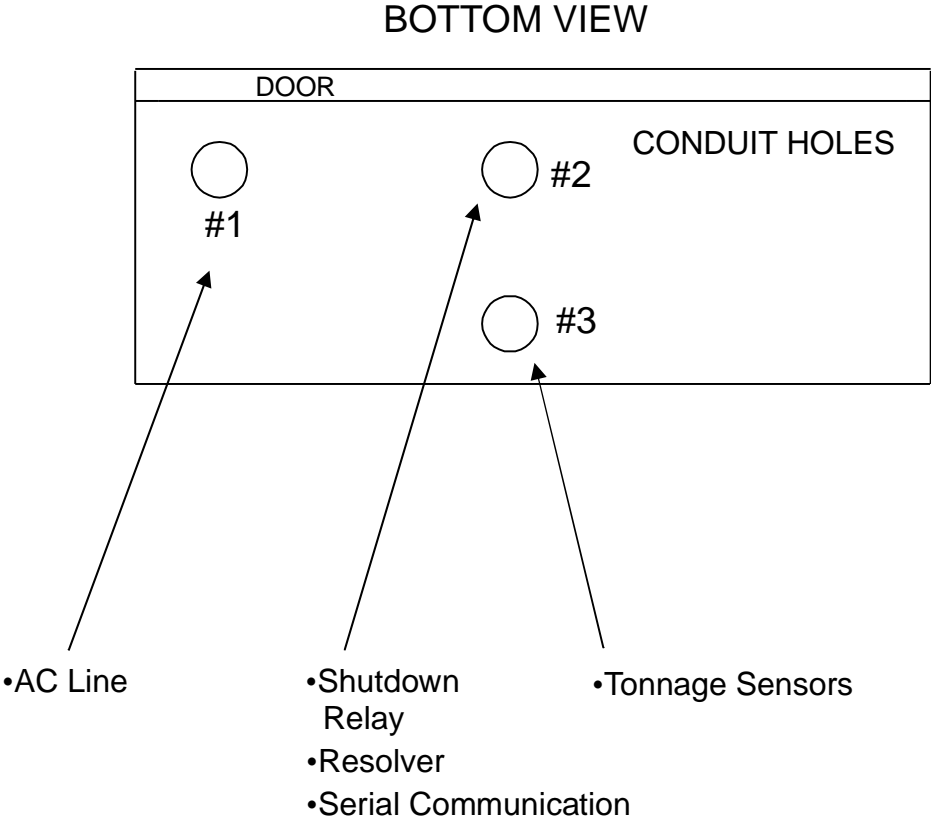
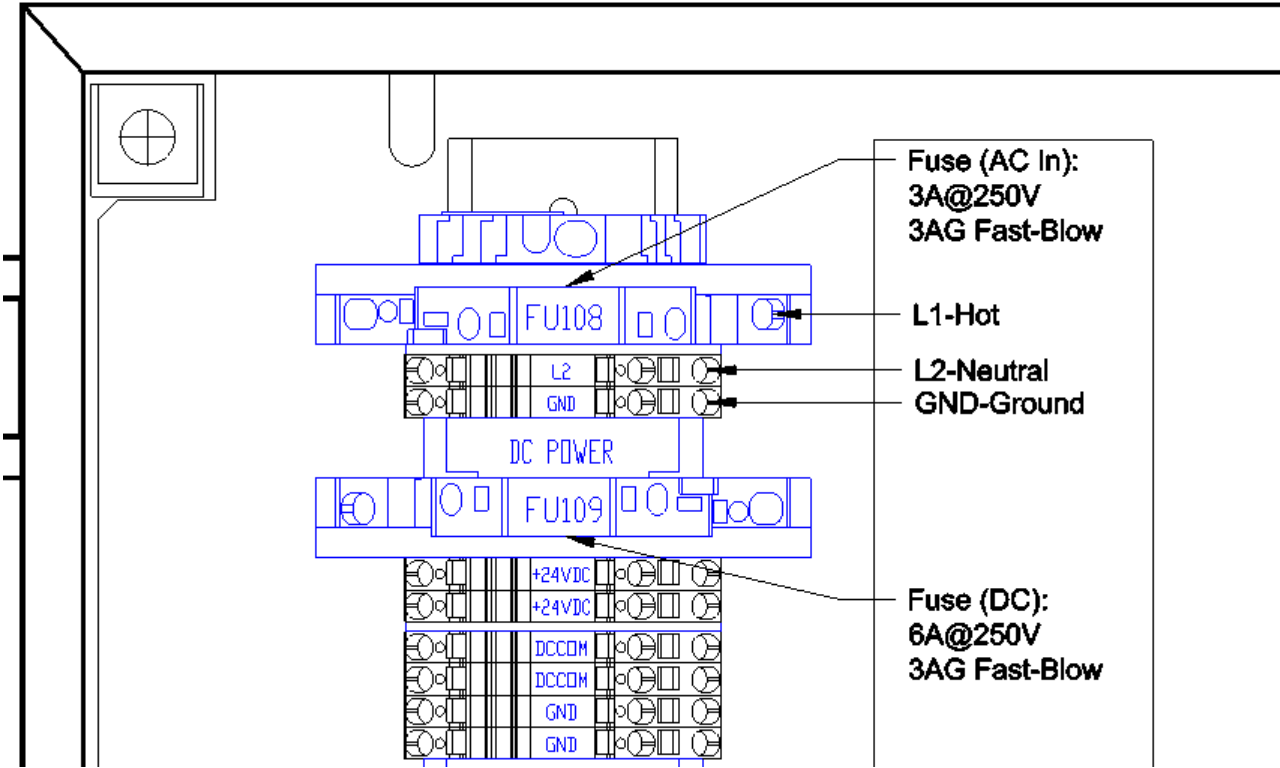

Figure 1-3: Conduit Hole Selection
Figure 1-4: AC Power Wiring
Follow Figure 1-3 to select the proper conduit hole for cabling. The holes are for 3/4" conduit, but they can be enlarged in the field if a larger fitting is required.
AC power is connected to the LS-ZT as shown in Figure 1-4. Use Conduit Hole #1 (see Figure 1-3) for the AC Power Wiring. Use the proper fuse as indicated.
- 2) Run Tonnage Sensor Cables through the Conduit Hole #3 (see Figure 1-3), and upward through the central wireway. For channels 1-4, route them to the right toward the CH1-4 terminal blocks. For channels 6-9, route them to the left toward the CH6-9 terminal blocks.
Use Conduit Hole #2 (see Figure 1-3) for the Resolver Cable. The resolver input consists of the following components: